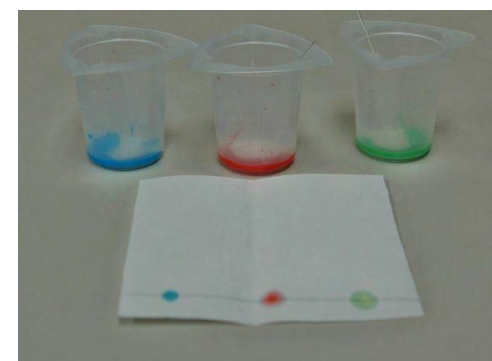

Figure 4. Chromatography set up.
- ☐ 2. Set up the chromatography paper according to Figure 4.
- ☐ 3. Using a pencil, mark the paper 1 cm from the bottom edge. Refer to Figure 4.
- ☐ 8. Use a pencil to mark the edge of the solvent front (the edge of the mobile phase) and the location of the analytes with a pencil (see Figure 4 for reference). Measure the solvent and dye fronts based on farthest location from origin line. Record your data and any additional observations in **Table 1**.